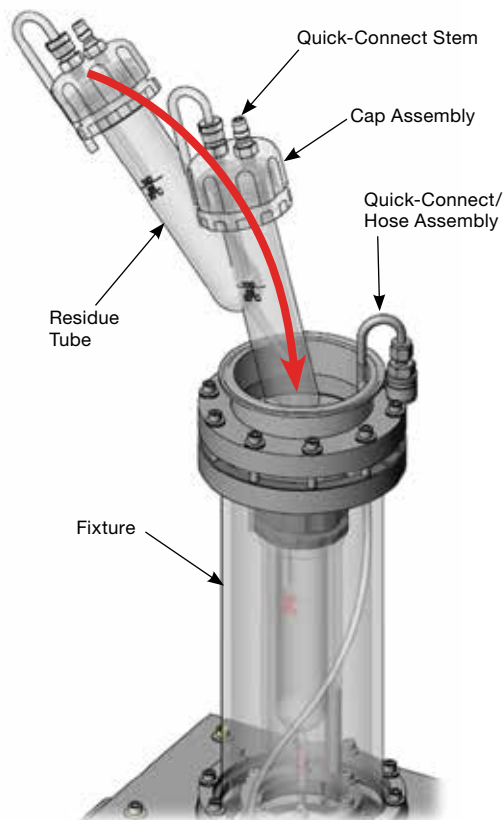

Figure 19 Pivoting Residue Tube Into Fixture
5. Pull out the quick-connect/hose assembly and hook it over the edge of the sanitary ferrule so that it is out of the way, as shown in Figure 19.
6. As shown in Figure 19, pivot the residue tube into the fixture and insert it into the 2 in. glass pipe. The bottom of the retainer should rest on the top of the 2 in. glass pipe, and the residue tube should be approximately centered.